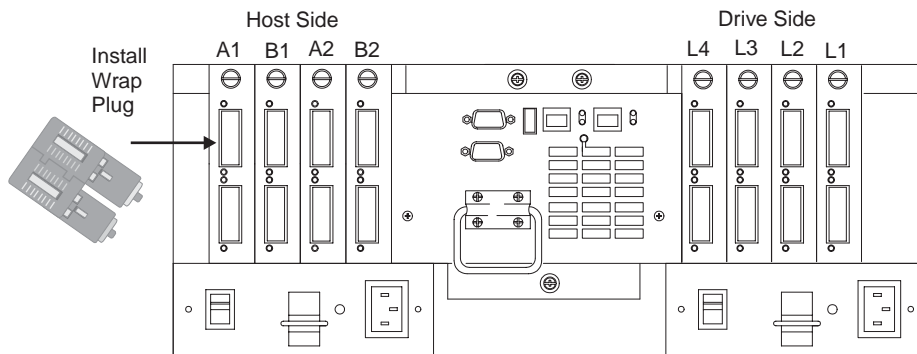

Figure 18. Install wrap plug to GBIC or SFP in mini-hub on controller A
- b. For a FAStT500, DS4400, DS4500, DS4300, or DS4100 RAID controller, install a wrap plug to the GBIC or SFP in the mini-hub on controller A. See Figure 18.